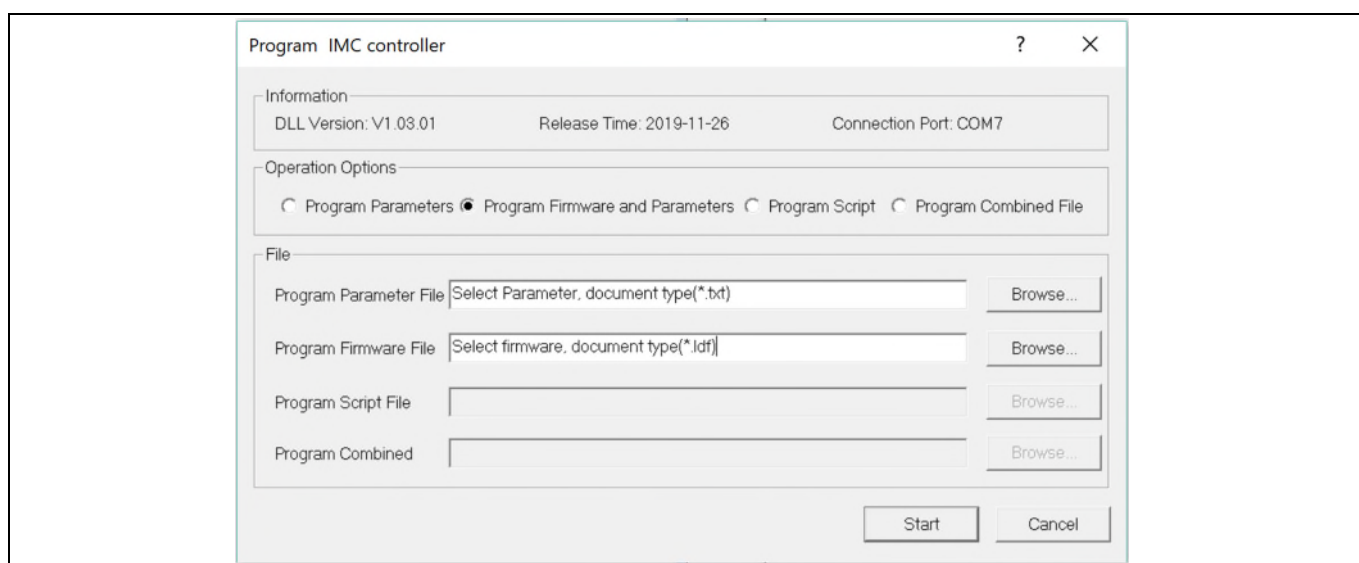

Figure 6 Program the parameters and firmware
5. Use the following steps to program the firmware and the parameters' file into the internal Flash memory of iMOTION™ Control IC: click on system page, click “Tools” > “Programmer” and select “Program Firmware and Parameters.” Shown as Figure 6 below. The encrypted firmware is available at “IMD111T MCE Software Package;” regarding the parameters file, browse and select the '.txt' file in the section 2.1.2.